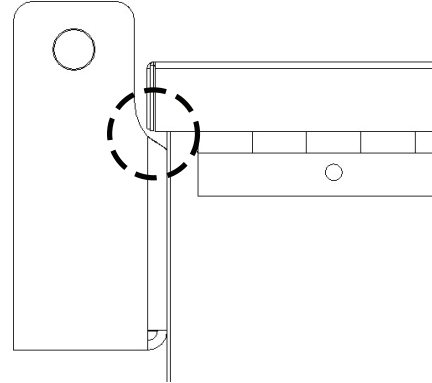

Figure 2 (Piano Box shown)
2. On certain applications, where the cover overlaps the body of the box, verify that the placement of the bracket will not interfere with closing of the cover before drilling. (See Fig. 2)